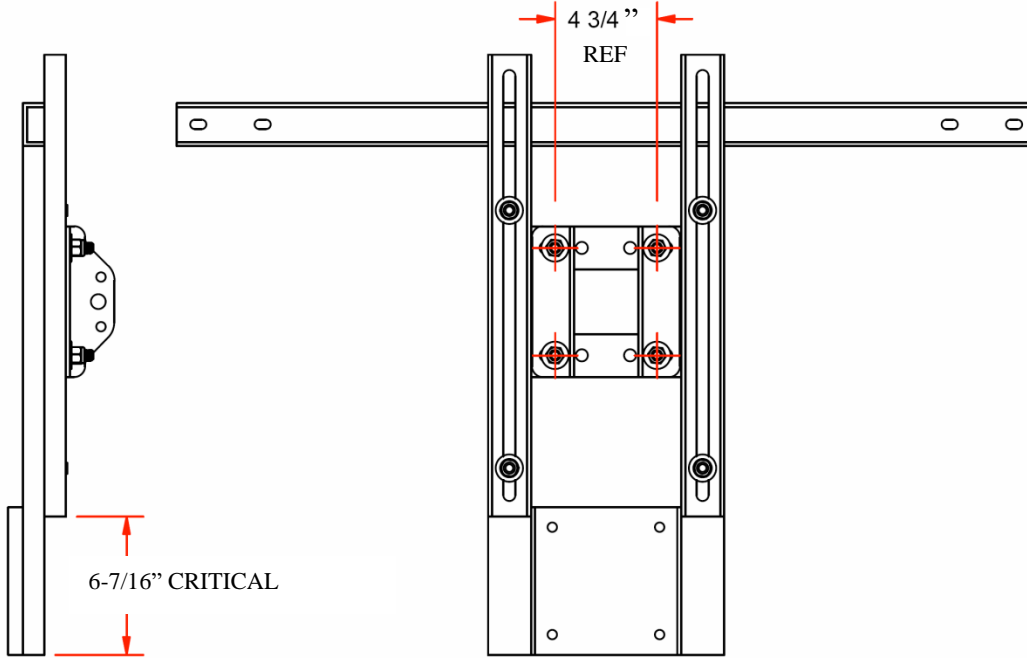

**Figure 1**
1. Attach the T-Frame to the H-Frame slot channel with 1/2" carriage hardware as shown (*Figure 1*). Do not tighten.